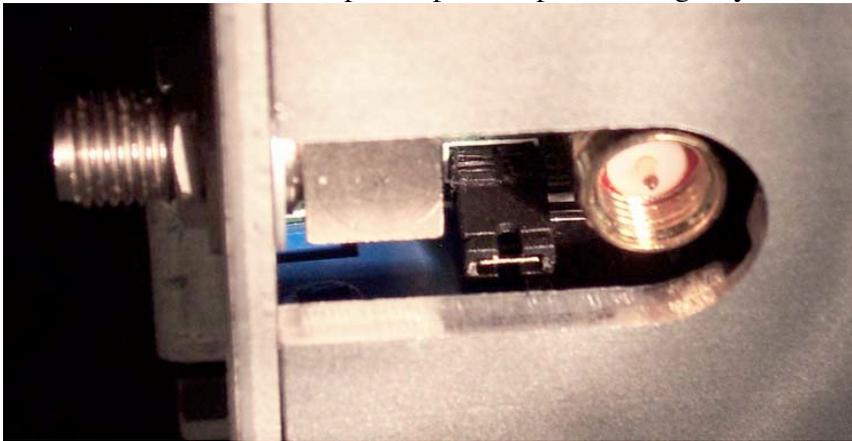

Figure 1. DR5A unit; detail view of absolute interlock jumper.
- (iv) Optional absolute interlock wiring, taken to the DB15 connector (see Operational Safety section Fig. 1, and Connection diagram Fig. 10).
- (i) Mount DR5A and DR5V. Ensure system input voltage is in correct ~24V range for DR5A, and that DR5V is connected to gripper electrodes. The interlock jumper in Fig. 1 must be removed or left in place at this time, depending on your interlocks.
- (ii) Ensure that the interlock jumper in Fig. 1 is in place, or that the interlock connection